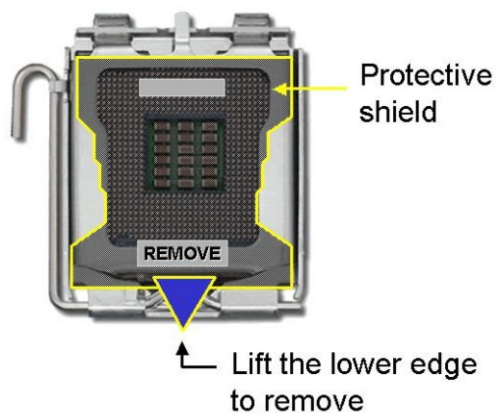

Figure 4-2: Remove the CPU Socket Protective Shield
- Step 1: Remove the protective cover.** Remove the black protective cover by prying it off the load plate. To remove the protective cover, locate the “REMOVE” sign and use your fingernail to pry the protective cover off. See **Figure 4-2**.